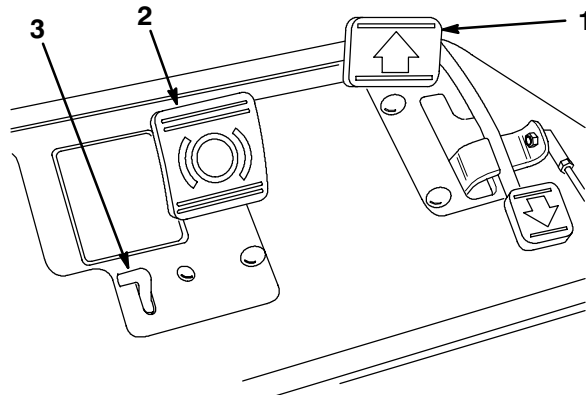

Figure 21
The traction pedal (Fig. 21) has three functions: (1) to make the machine move forward; (2) to move it backward; and (3) to stop machine. Depress the top of the pedal to move forward and the bottom of the pedal to move backward or to assist in stopping when moving forward. Also, allow the pedal to move to the neutral position to stop the machine. For operator comfort, do not rest the heel of your foot on reverse, when operating forward (Fig. 22).
The Brake Pedal (Fig. 21) actuates an automotive drum-type mechanical brake located at each traction wheel.
Depressing the brake pedal to actuate the brake assembly, then depressing the small lever indicated (Fig. 21) will keep the brakes actuated for parking. Disengage the parking brake by depressing the brake pedal. Form the habit of locking the parking brake before you leave the machine.